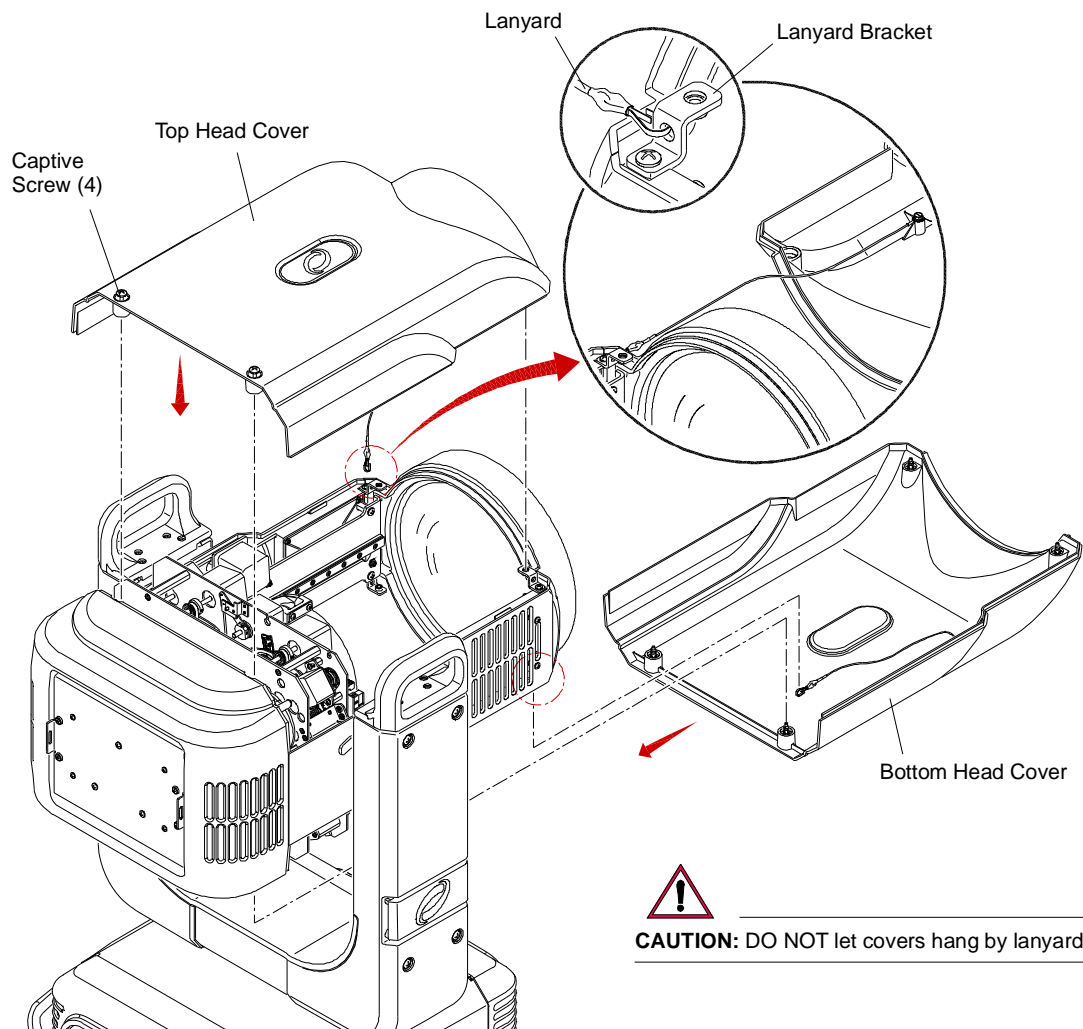

Figure 4-5: Removing Head Covers
- Step 1. At cover, loosen four captive screws (**Figure 4-5**). (Cover will still be secured by a safety lanyard.)